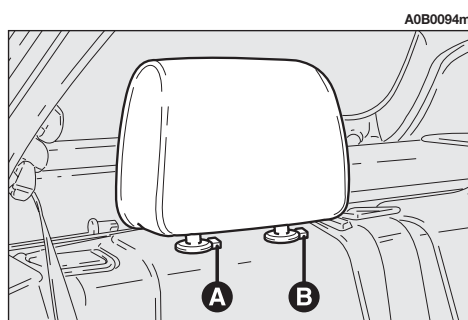

fig. 5
The car is fitted with two headrests for the side seats **(fig. 5)**. On request for versions/markets where applicable, the car may also be fitted with a third headrest for the central seat **(fig. 6)**.
– Press the buttons **(A and B-fig. 5)** at the same time and remove the headrests.
– To refit the headrests keep the buttons pressed **(A and B-fig. 5)** and insert them completely.